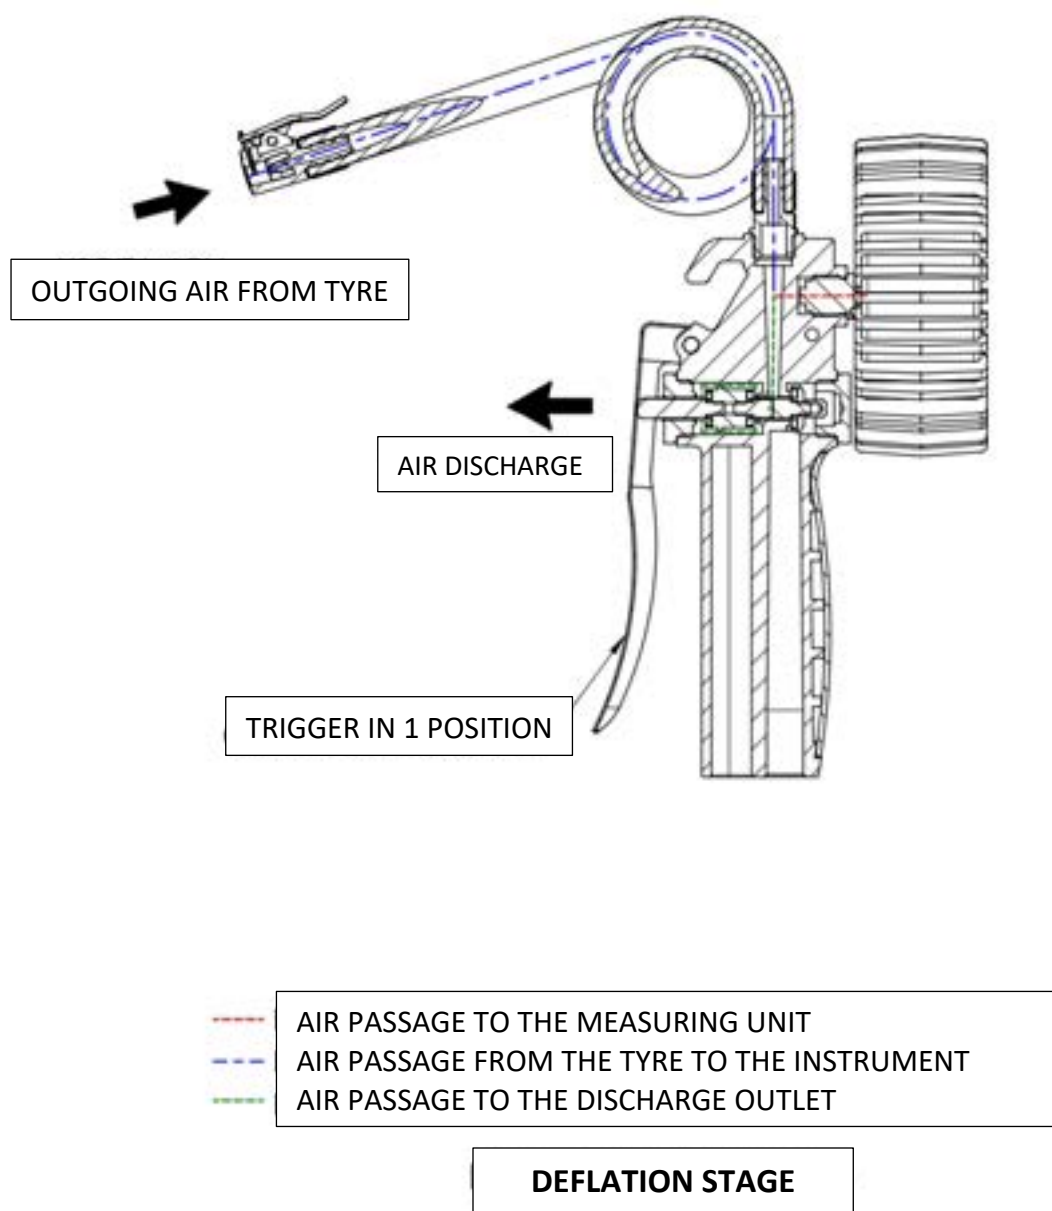

FIG. 8 – TYRE PRESSURE GAUGE “60 G/T” (vers. 63 mm)
- Tyre pressure deflation stage (Fig. 8)